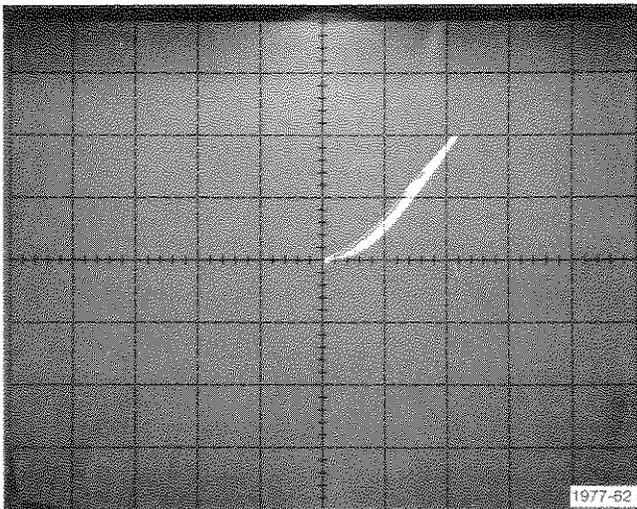

Fig. F-10. Display of saturation voltage.
- c. Check that the horizontal deflection of the display (representing saturation voltage) is ≤ 4 divisions from the zero reference point established in part a above (see Fig. F-10).